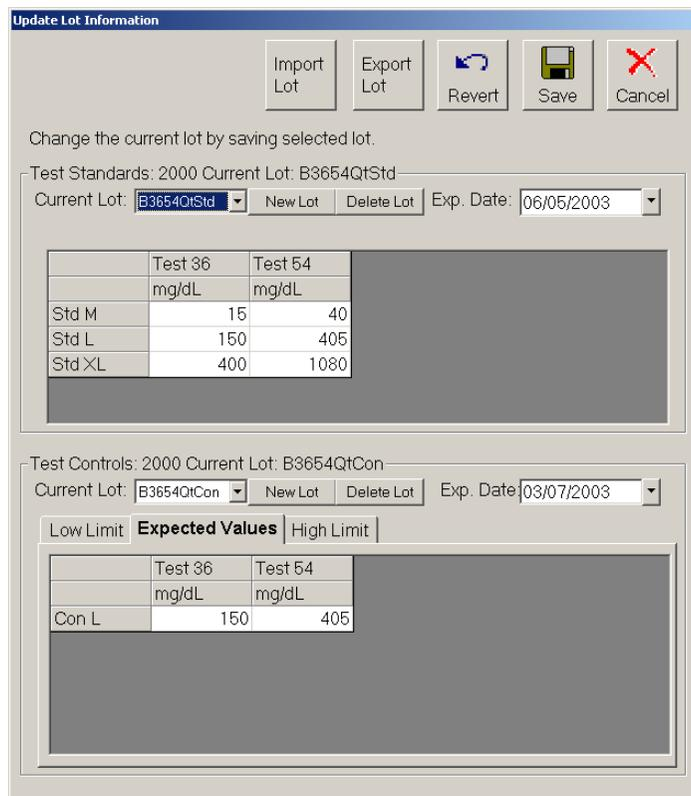

Figure 44 Update Lot Information Dialog Box
2. Highlight the template that you want to edit and click **Select**. The **Update Lot Information** dialog box opens. See Figure 44.
2. Double-click the template that you want to edit. An **Update Lot Information** dialog box opens. See Figure 44.